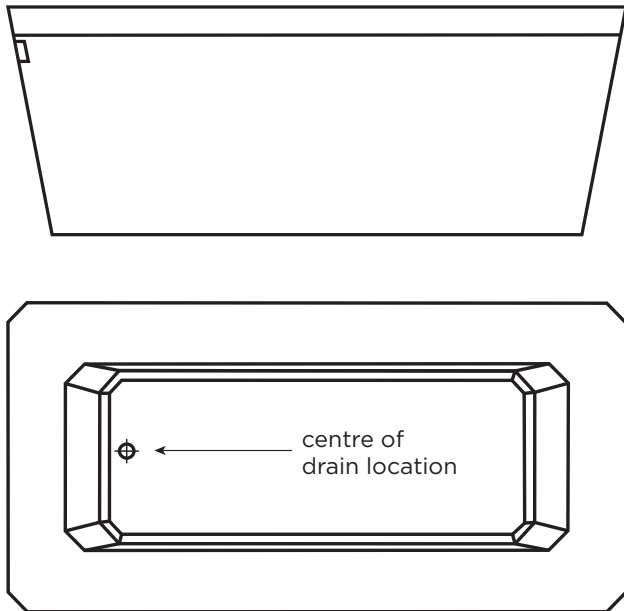

FIGURE 1
2. Position the tub in the area where it will be installed. Mark the centre of the drainage line in relation with the desired position of the bathtub. (**Figure 1**)